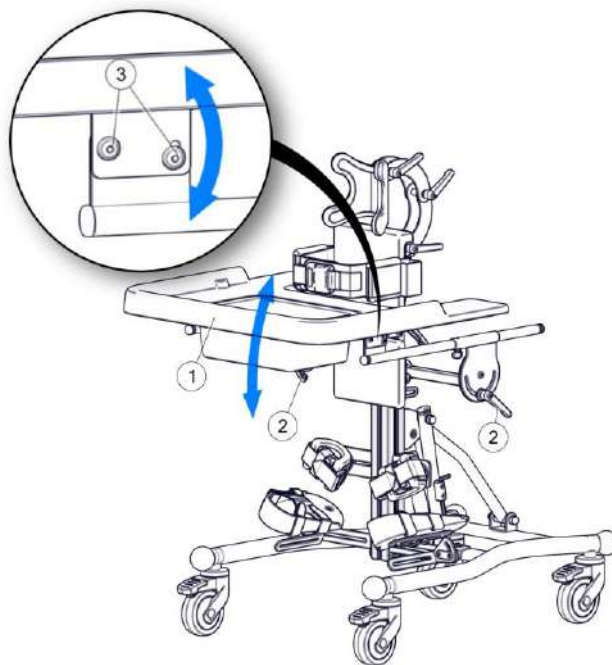

Figure 18
8.1.1. Adjustment of the tray tilt angle – Figure 18